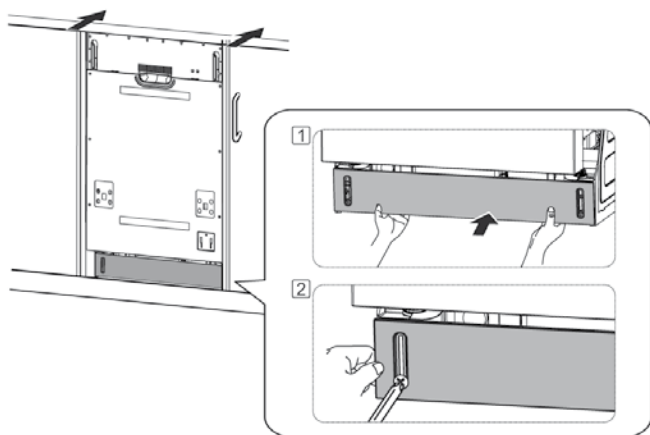

Figure 14
5. Confirm that the kick panel gasket is on the bottom of the kick panel. To install the kick panel with screw ST3.9\*13, refer to the figure 14.